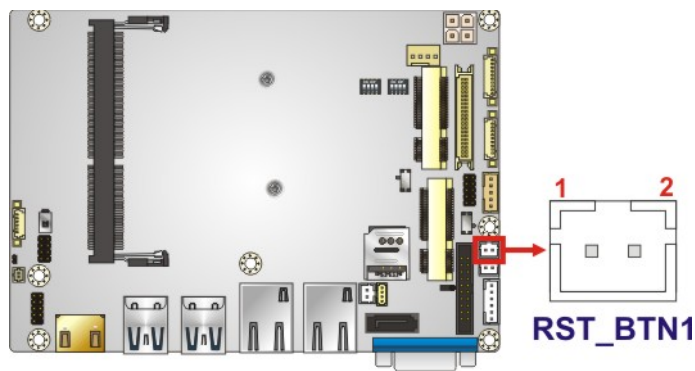

Figure 3-15: Reset Button Connector Location
- CN Location: See Figure 3-15